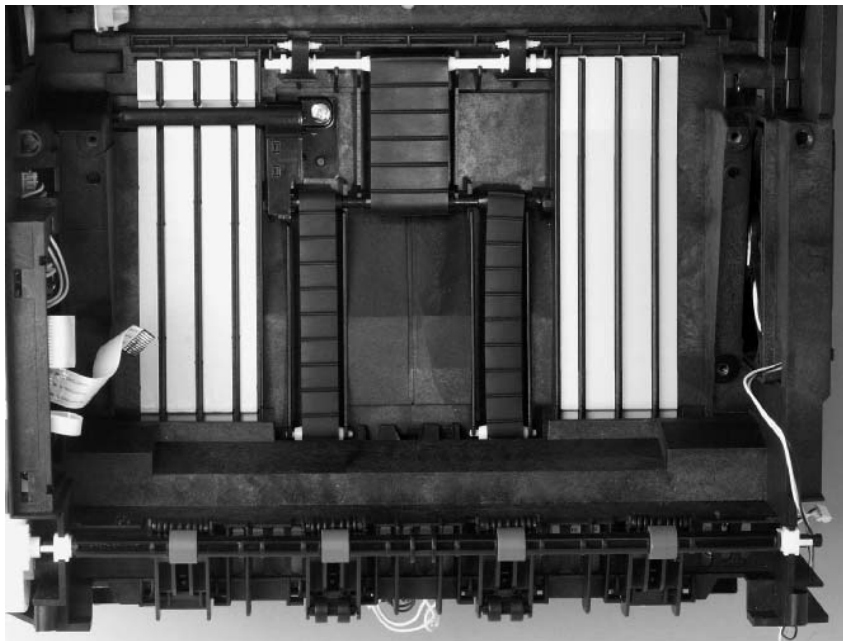

Figure 104. Transport rollers and belts installed
- Step 7 Verify the correct installation of the transport belts and rollers, using figure 104.